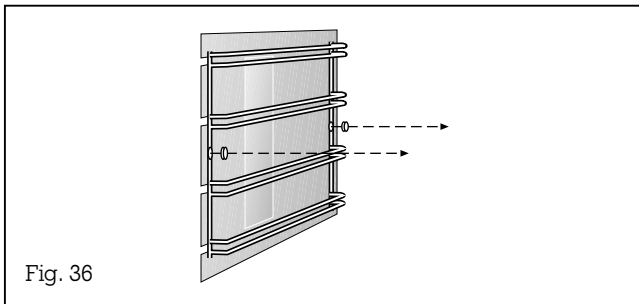

Fig. 36
- Remove the two knurled nuts at the front and rear of both side panels (Fig. 36).